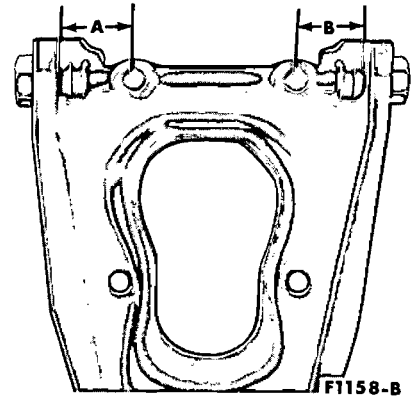

FIG. 6—Shaft Centered in Arm—Typical
9. Position the shaft in the arm, apply grease to the new bushings and O-rings, and install the bushings loose on the shaft and arm. Turn the bushings so that the shaft is exactly centered in the arm. The shaft will be properly centered when dimensions A and B in Fig. 6 are equal.